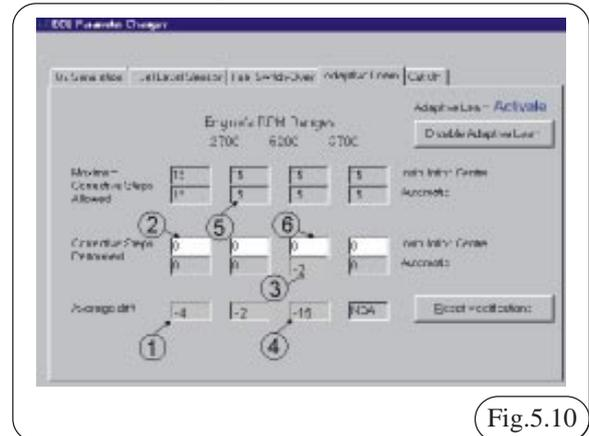

Fig.5.10
If a condition similar to the one in Fig. 5.10 occurs, the AVERAGE DRIFT (1) value of the first range may be inserted in the cell CORRECTIVE STEPS PERFORMED, at the INSTALLER line (2); the same operation can be performed for the 1,300 and 3,000 RPM range.